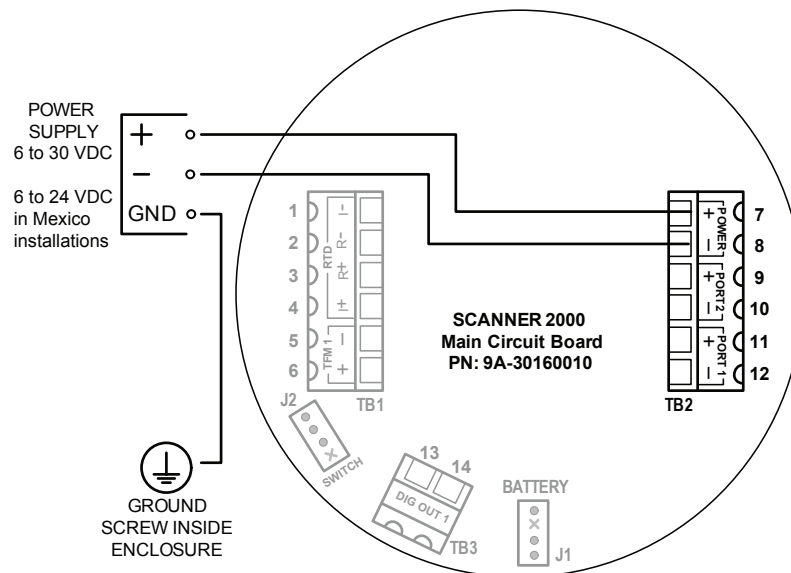

Figure 3.3—External power supply wiring (CSA)
- a. Connect wiring for external power, if appropriate. See Figure 3.3, page 55 for a wiring diagram.
The CSA-approved Scanner 2100 can be connected to a remote power supply by a two-conductor cable (Figure 3.3). The power supply and cable must be capable of supplying 6 to 30 VDC at 150 mA (6 to 24 VDC at 150 mA for installations in Mexico).